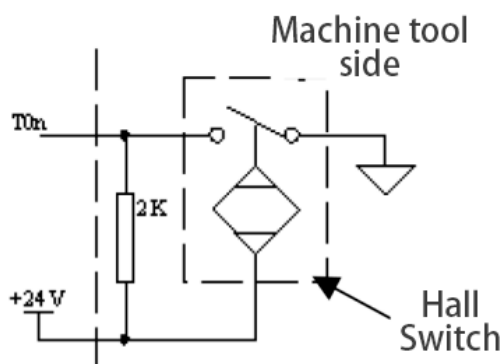

Figure 2-37
3. The external connection circuit of the tool position signal machine tool is shown in Figure 2-37, and when the tool position signal is low and effective, an external pull-up resistor is required.